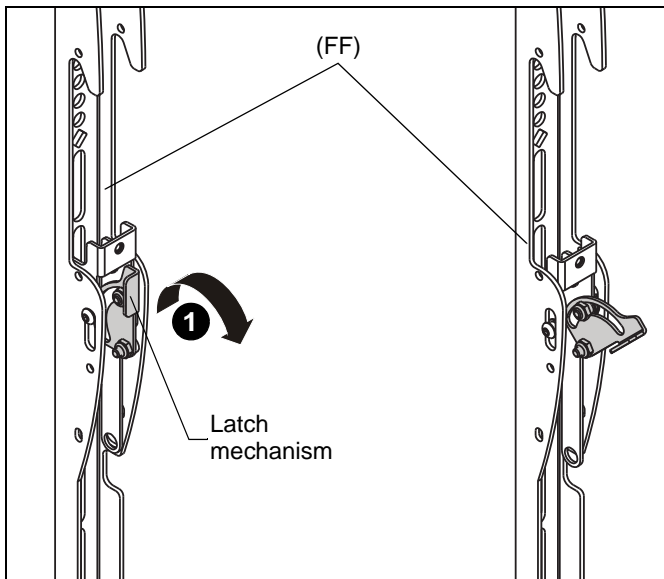

Figure 5
1. Lower the latch mechanism on each interface bracket (FF). (See Figure 5)
1. Ensure that the latch mechanisms on interface brackets (FF) are already lowered. (See Figure 5)